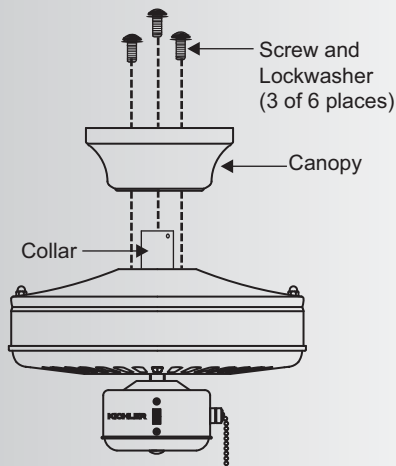

Fig. 9
Step 4. Remove three of the six screws and lock washers (every other one) from the collar of top motor. (Fig. 9)
Step 5. Place the ceiling canopy over the collar at the top of the motor. Align the mounting holes with the holes in the motor and fasten using the screws and lock washers provided. (Fig. 9)
Step 6. Tighten the mounting screws securely. (Fig. 9)